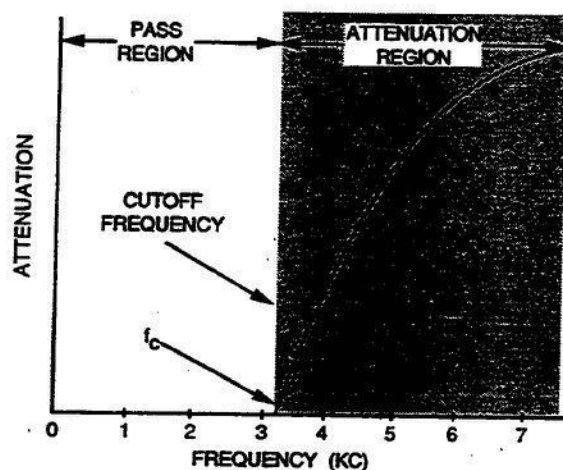

Figure 3-29. Low-pass filter characteristics.
**Low-pass filters.** A *low-pass* filter permits the passage of frequencies from zero up to a predetermined frequency, but attenuates all others. Figure 3-29 shows the frequency characteristic of a low-pass filter. Attenuation (loss) is plotted vertically, and frequency is plotted horizontally. The *pass region* (from zero to the cutoff frequency,  $f_c$ ) is the range of frequencies for which there is no attenuation. Actually, the attenuation in the pass region is not zero, but rather a small, negligible amount. The cutoff frequency,  $f_c$ , is the frequency at which the attenuation starts to increase rapidly. The *attenuation region* (from the cutoff frequency to infinite frequencies) is the range of frequencies for which the attenuation is appreciable.